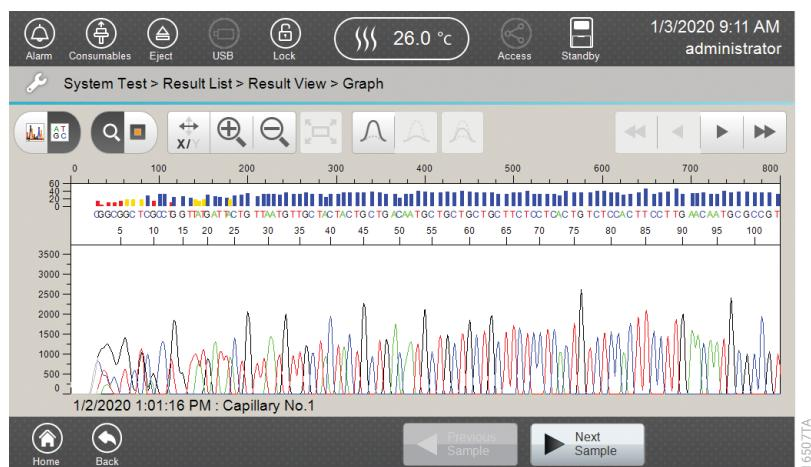

Figure 218. Sequencing System Test 'Graph' screen of selected sample.
8. Select **View** in the footer to view the data for that sample in the 'Graph' screen (Figure 218). See 'Results' Tab in Section 5.7, Monitoring a Run, for definitions of the navigation icons on this screen and how to use them.